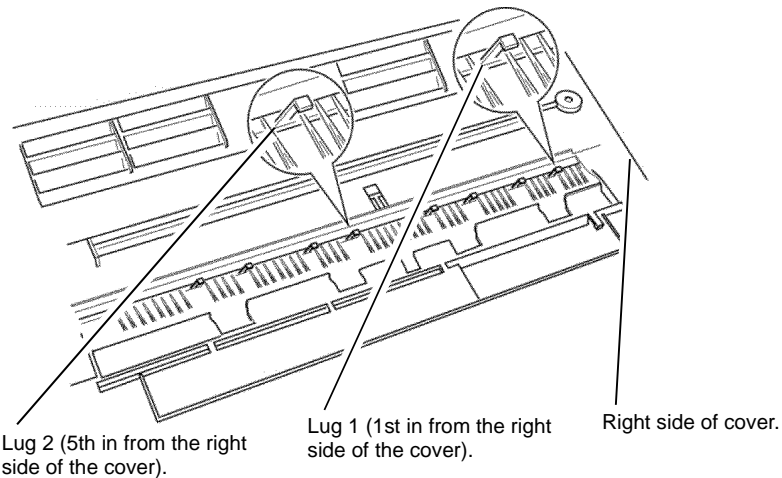

Figure 1 Lug removal
3. Remove lug 1 and lug 2 from the rear of the right hand cover, Figure 1.